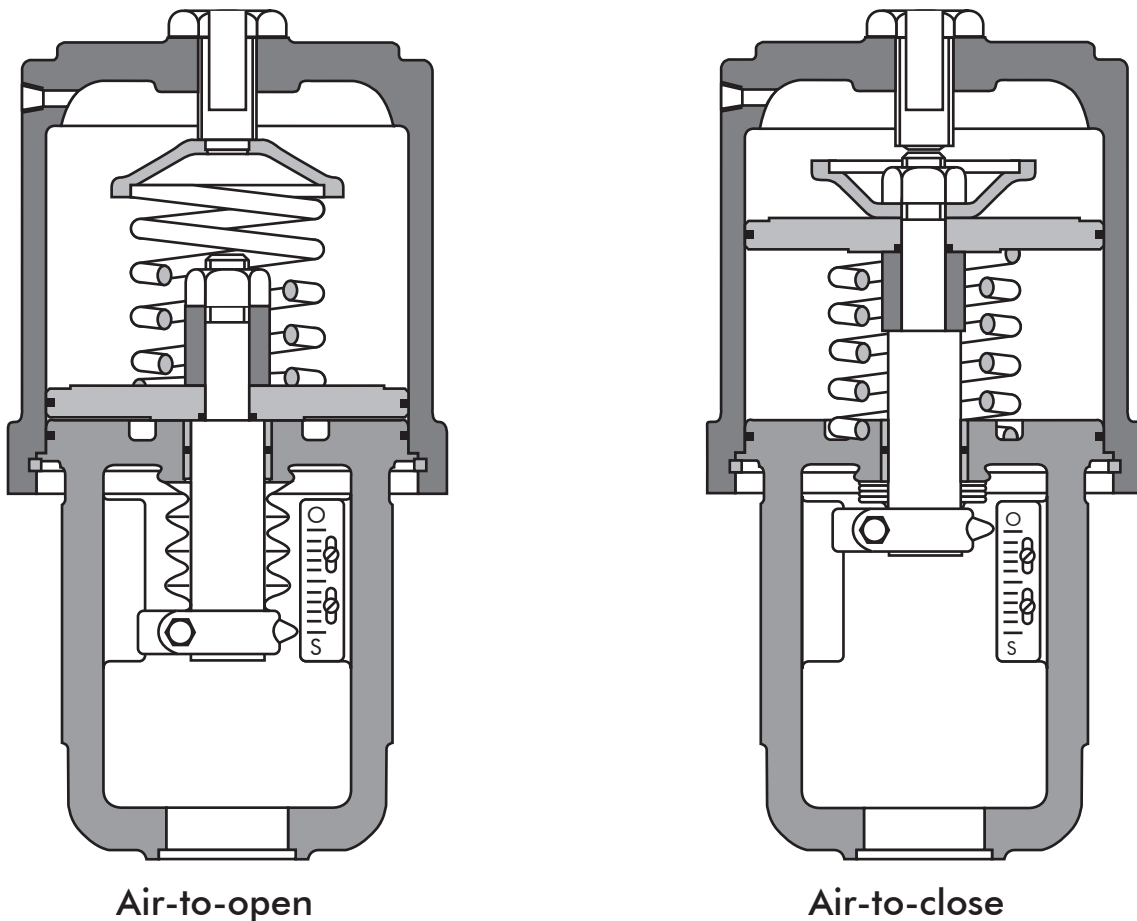

Figure 3 : Air-action Configurations
3. Replace the piston stem O-ring and reassemble the piston and actuator spacer on the actuator stem according to the proper air-action (refer to Figures 3 and 5), If the actuator stem has been removed. Air-to-close configurations require the spring button to be inserted under the actuator stem retaining nut. Tighten the retaining nut firmly.
To change the air-action from air-to-close to air-to-open, refer to Figures 3 and 5 and proceed as follows:
To change the air action from air-to-open to air-to-close, refer to Figures 3 and 5 and proceed as follows: